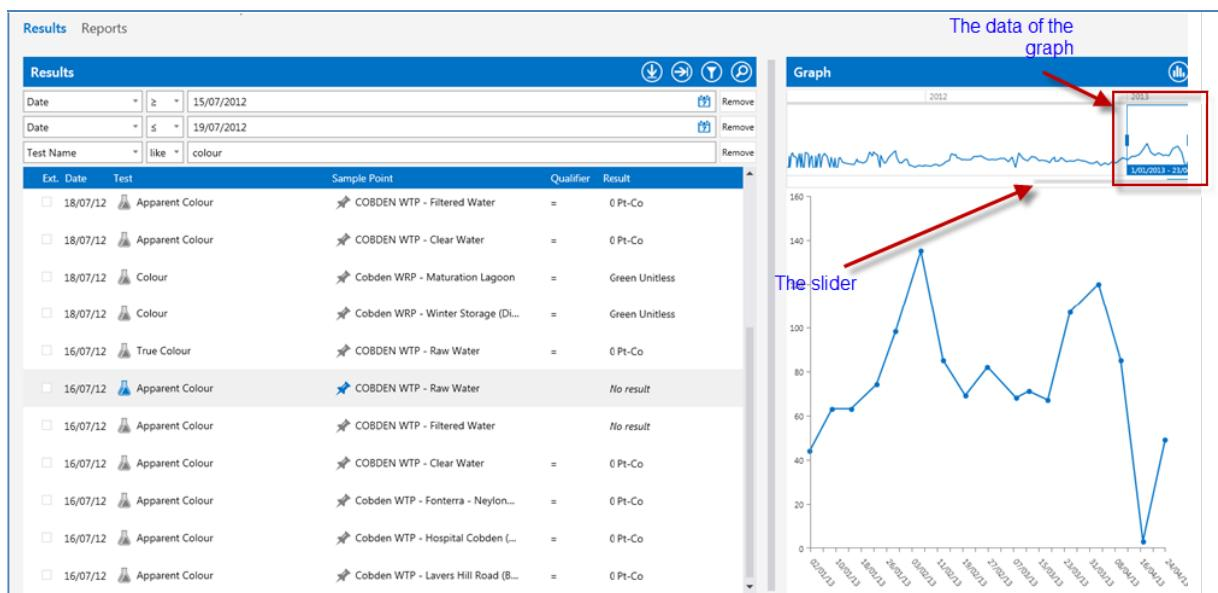

Figure 1: The Aquantify data entry screen
- 1. Graphing trends.** When an Operator clicks on a test, two graphs for that test appear (Figure 1). One is a graph and one is a timeline. The timeline has a slider that the Operator can move to see the entire history of data entered. There is also a box around the data which is represented on the graph and you can move the box to have historical data appear on the graph if detail is needed.